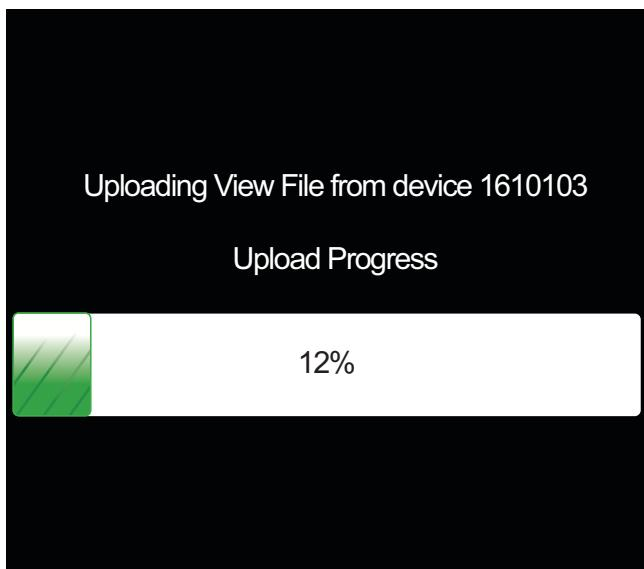

Fig. 12 – Firmware Uploading
4. Once connection is established, Equipment Touch will start uploading touch file from the SystemVu device, as shown in Fig. 12.